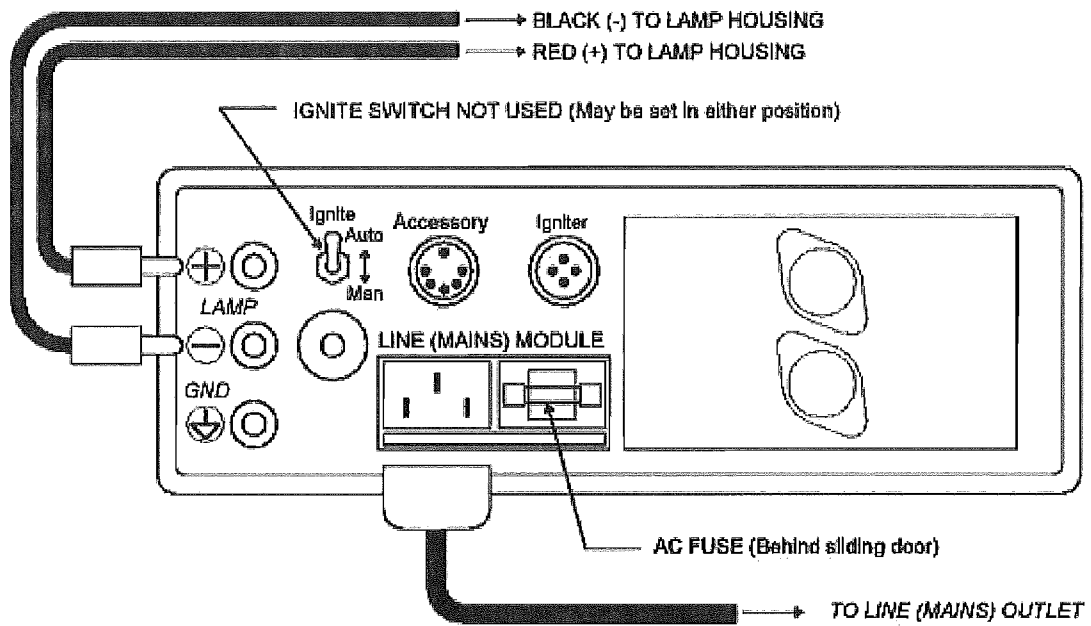

Figure 2 - Connections for Tungsten Lamps
1. Connect the lamp power supply to the igniter using the gray igniter cable supplied. Verify the proper polarity of the connector by looking at the connectors at each end of the cable and the mating connectors on the components. The male end of the cable must plug into the female connector on the lamp power supply (see figure 2). The female end of the cable must plug into the male connector on the igniter.